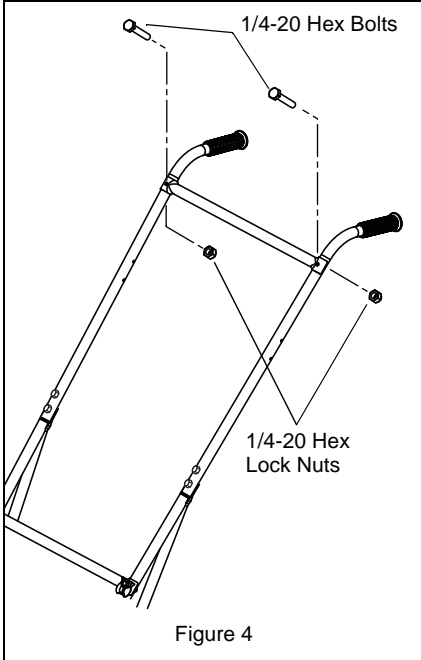

Figure 4
5. Align the crossbar with the mounting holes at the top of the upper handles and install with two 1/4-20 hex bolts and hex lock nuts. See Figure 4.